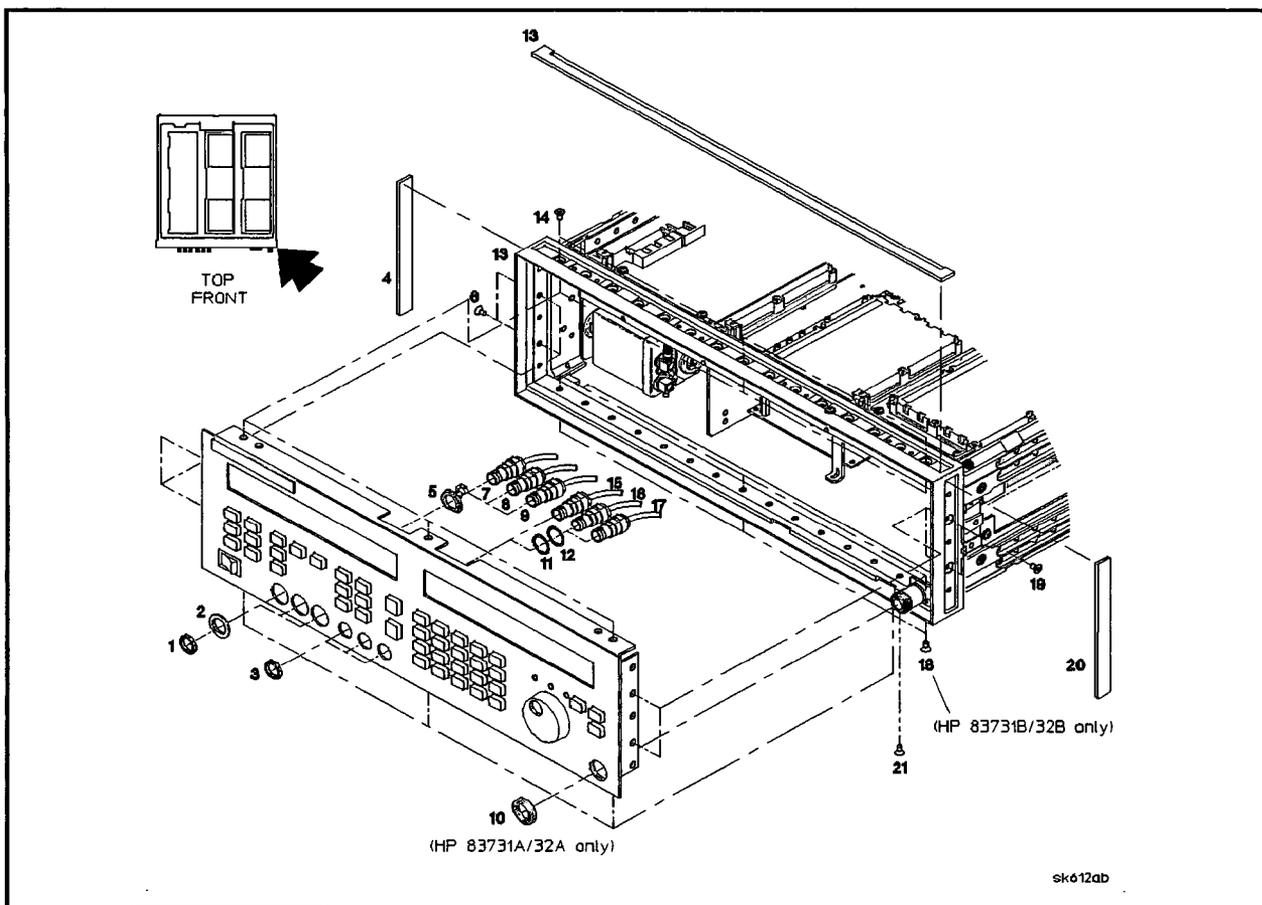

Figure 5-41. Display and Keyboard Removal
2. See Figure 5-41 for the remainder of this procedure.
1. Using a size 10 TORX[®] screwdriver, remove the nine keyboard screws. See to Figure 5-41.